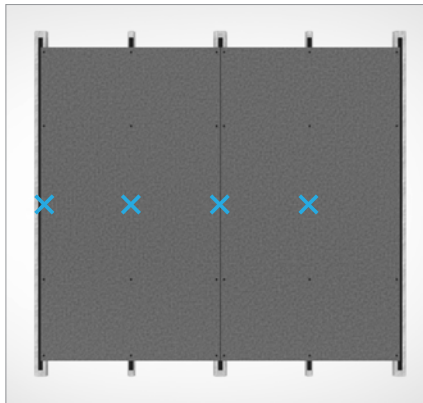

FIGURE 8.
- When installed in a vertical layout, the boards must have only two fixed points as close to the centre of the panel as possible. (see Figure 8 & 9)